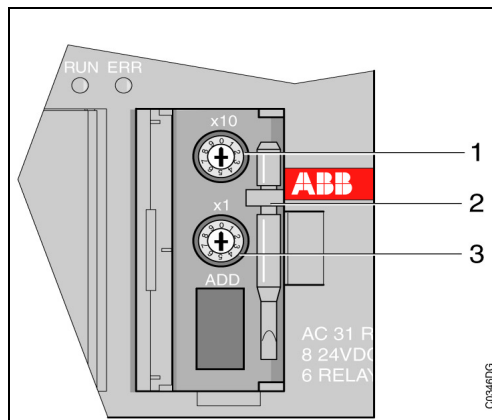

Figure 3-4 : Enlargement of item 9 without cover
Enlargement of item 9 without cover (see Figure 3-4)